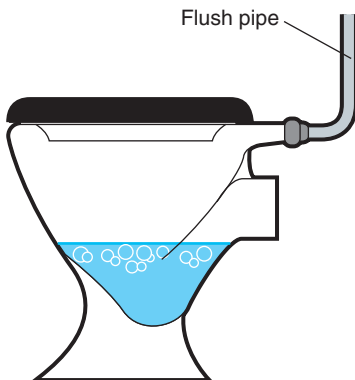

Figure 7.20 Wash down pan
- Wash down WC pan (see Figure 7.20)